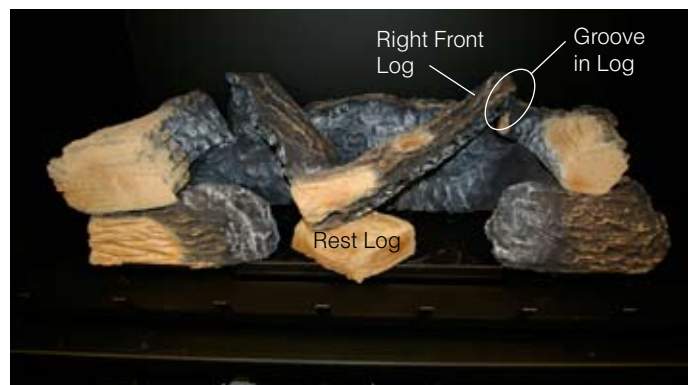

Figure 30f. Placing Right Front Log.
Step 8. Place the Right Front log as shown using the notch in the Top Right log as a guide, *figure 30f*.